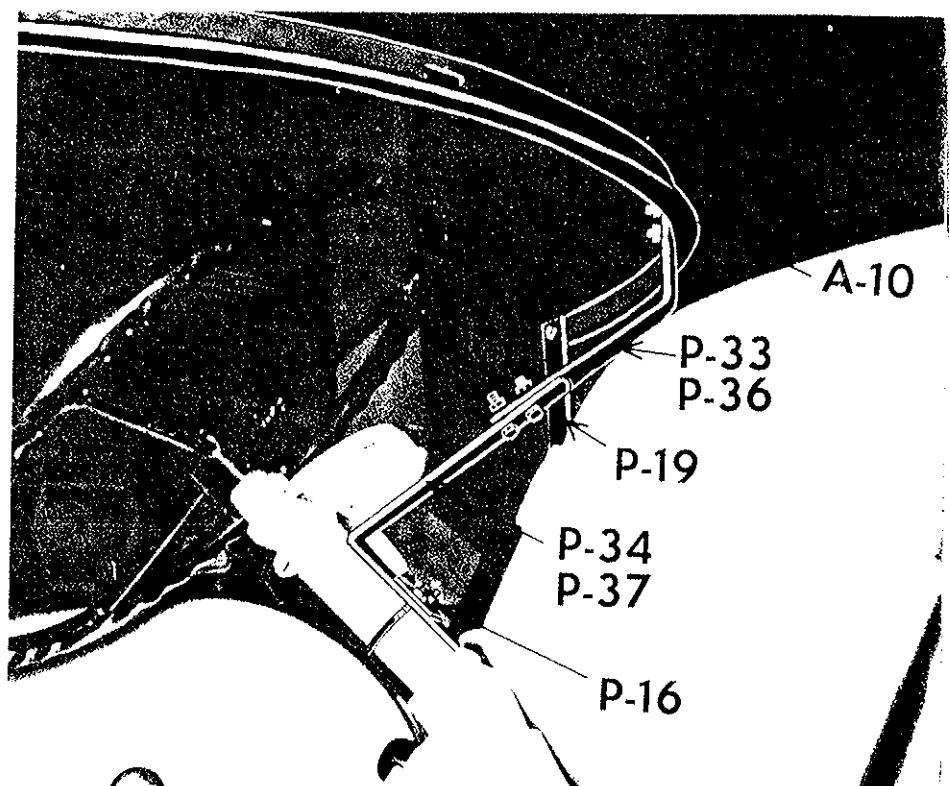

Figure 2
2. Install the mounting bracket on steering column as shown in Figure 2. Be sure to place the P-16 strap on top of mounting brackets as illustrated and bolt bracket together as shown.